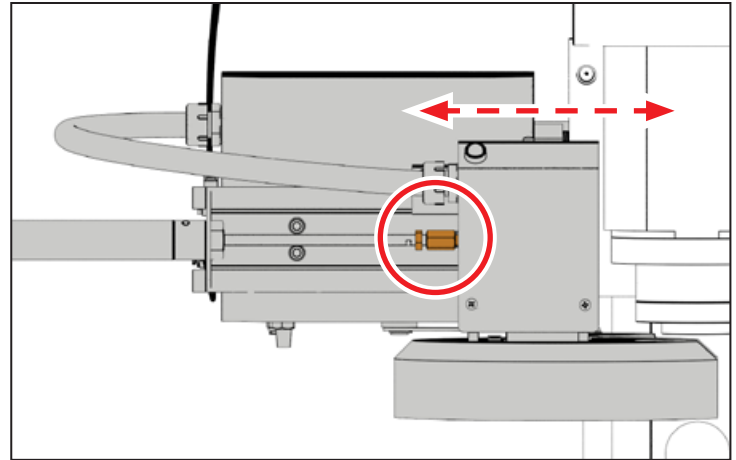

Figure 24
1. From the ATC's linear rail, loosen the jam nut (see **Figure 24**).
2. Slide the coupler to bring the ATC assembly closer to the spindle head or further away from the spindle head (see **Figure 24**).